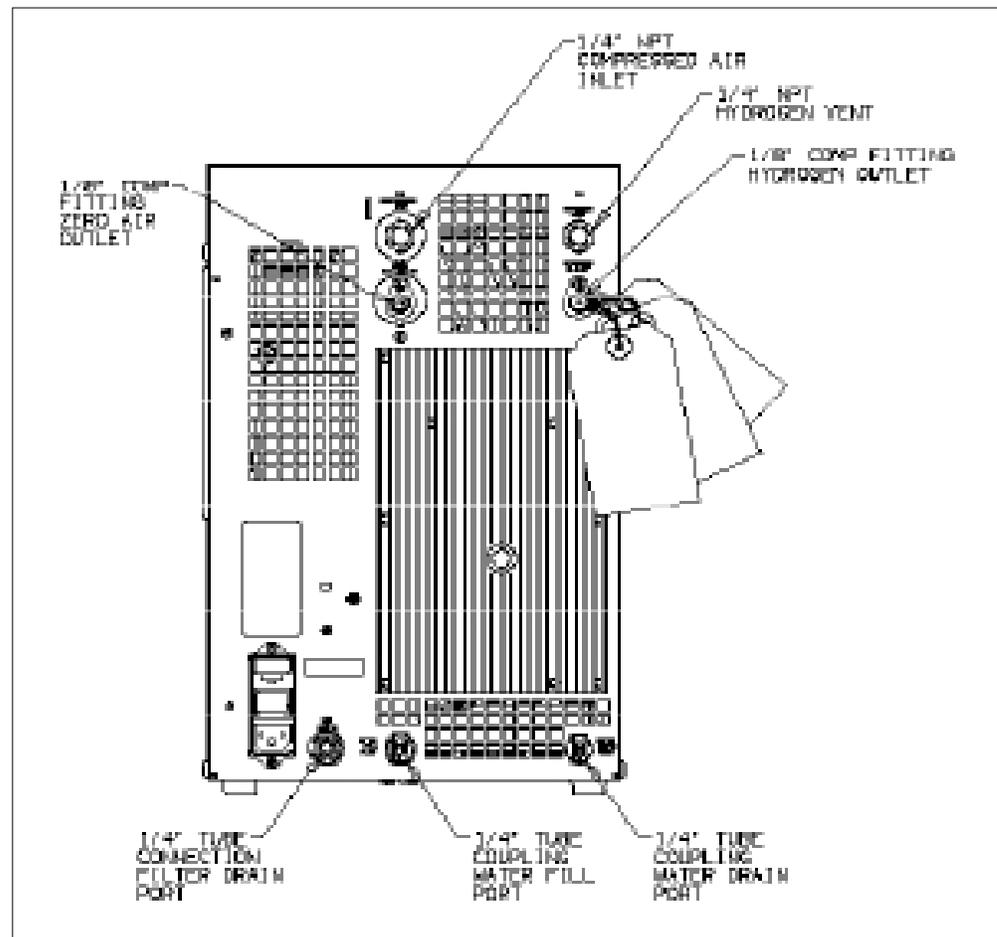

Figure 10 - Rear View of Unit
Connect the compressed air supply to the 1/4" NPT (female) inlet port in the top center of the generator, back of instrument (see Figure 10).
**Piping Components, FID 1000 and FID 2500 / ZAG** - The inlet port for the Parker Balston FID 1000 and FID 2500 Zero Air Generator is a 1/4" NPT (female) and is located at the top center of the rear panel (see Figure 10). Inlet tubing and fittings should be clean and rated for 125 psig (8.5 Barg), minimally. The tubing and fittings used downstream from the FID 1000 and FID 2500 should be clean stainless steel or pre-cleaned refrigeration-grade copper (1/8" od x .030" wall) and rated for 125 psig (8.5 Barg).
**Piping Components, FID 1000 and FID 2500 / Hydrogen** - The outlet connection for the FID 1000 and FID 2500 / Hydrogen is a 1/8" compression fitting (see Figure 10). All tubing and fittings downstream from the hydrogen generator should be clean stainless steel to minimize contamination of the hydrogen stream. If copper tubing has been used with hydrogen in the past and has yielded acceptable results, there is no need to alter an existing piping configuration to install the hydrogen generator.
For **Autofill** operation, the FID Gas Station incorporates a detection device which automatically activates a Water Fill Solenoid when the water level is at the REFILL or EMPTY Level. In order to function correctly, the FID gas station must be connected directly to a DI Water supply (not to exceed 50 psig). The FID Gas Station/H2 must be supplied with deionized water with a resistivity of at least 5 Meg-Ohm /cm or greater. Both a Gravity Feed and a Pressure Feed Tubing assembly can be located in the Accessories bag (P/N B02-0318). Select the required tubing, depending on the DI source, and attach to the Water Fill Port at the back of the FID Gas Station (see Fig 10).